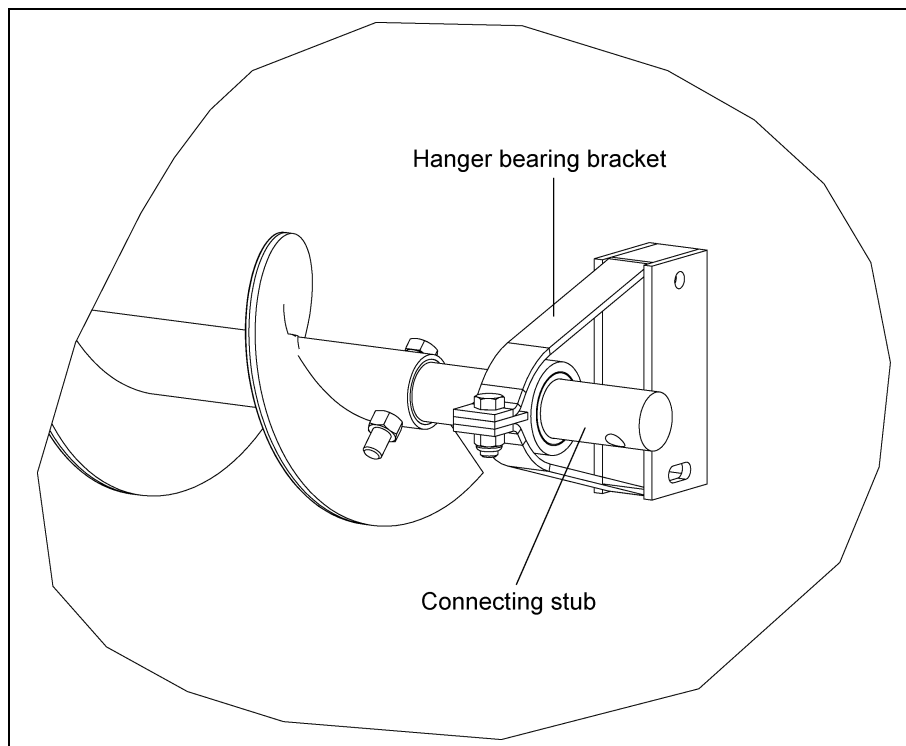

Figure 4AD
7. Install the next section of flighting onto the connecting stub. Secure the flighting with bolts *(See Note for Bolt Size on Page 31)* and stover nuts. *(See Figure 4AE.)*